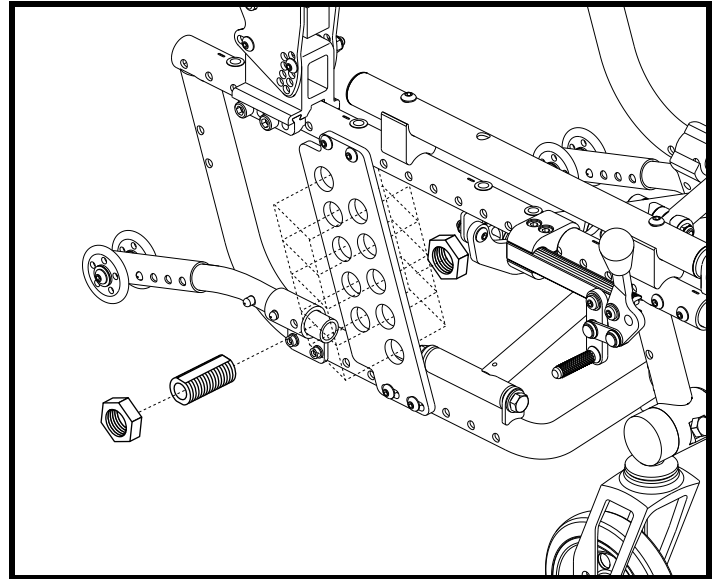

Figure 14. Drive Wheel Position Adjustment
2. Remove the center bolt and nuts from the axle bracket. See figure 14.